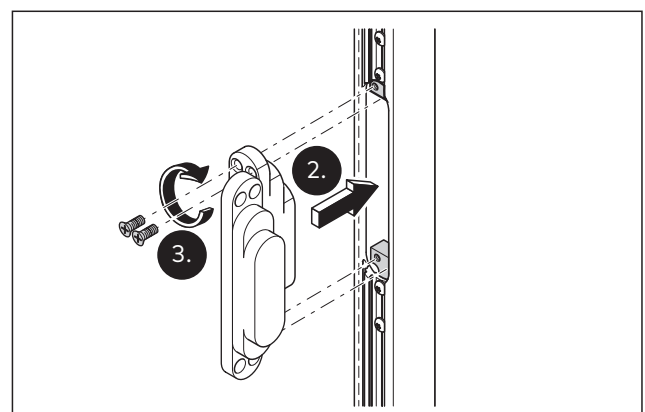

Fig. 45 Connect the TECTUS door hinge to the mounting brackets
- Position the door hinges on the mounting brackets for the TECTUS hinges according to the mounting instructions (Fig. 45).